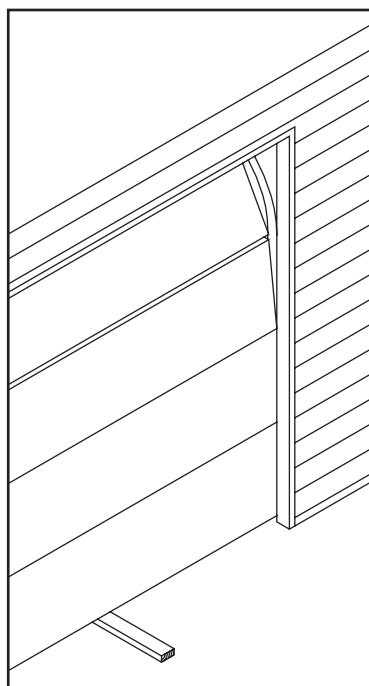

Figure 14 Checking force limit.
- Lay 2" x 4" board on floor in center of garage door opening (Figure 14).